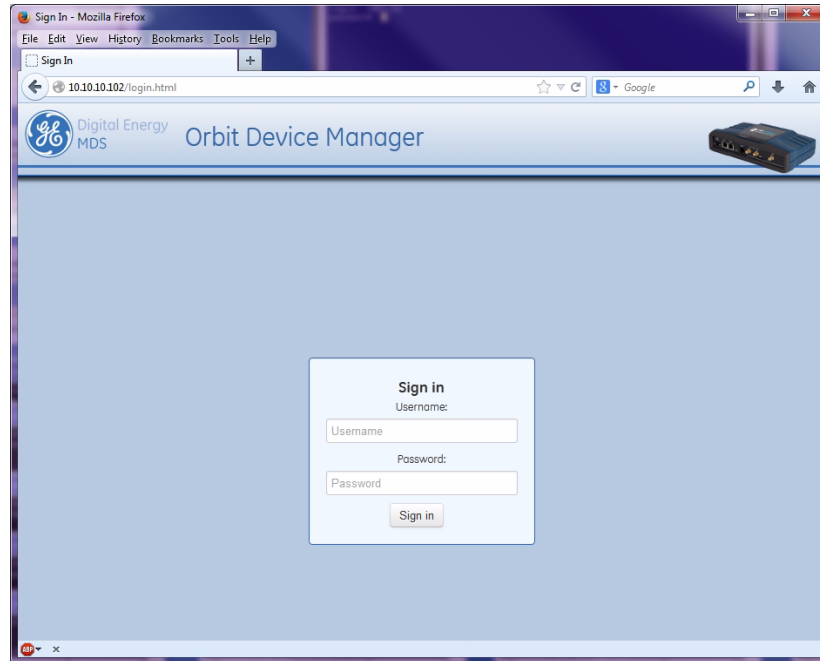

**Figure 27. Login Screen**
3. Enter the unit's IP address in a web browser window, just as you would enter a website address. When the login screen appears (Figure 27), enter the User Name and Password for the unit. The default entries for a new unit are both **admin**. Click **OK**.